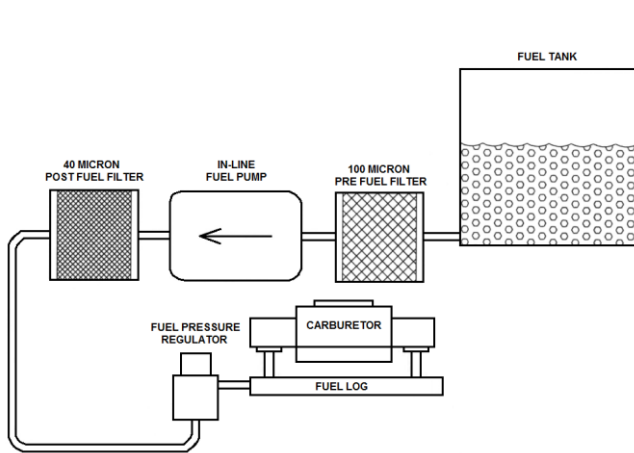

Figure 1
2. The standard regulator, provided with the 80000101 pump, has two discharge (out) ports (see Figure 1). In dual carburetor installations, one port can feed each carburetor. With single carbs, plug one port and feed the carburetor from the other. Either may be used. Installations should determine choice.
4. Connect the other line per Figures 1, 2, or 3.